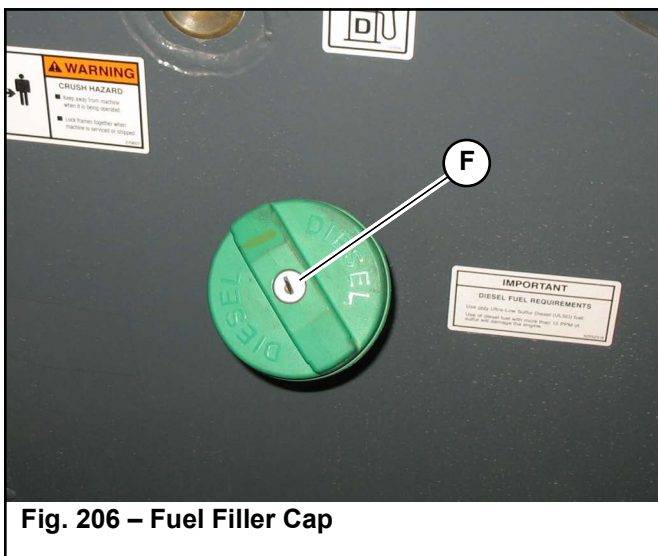

Fig. 206 – Fuel Filler Cap
2. Use the ignition switch key to unlock and remove fuel cap (F, Fig. 206) from the fuel filler neck.